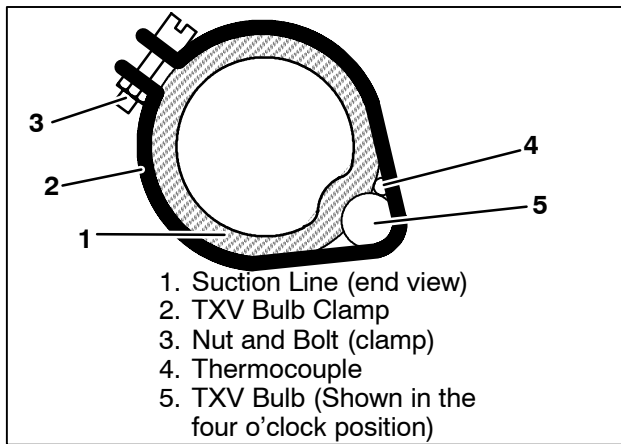

Figure 4-7. Thermostatic Expansion Valve Bulb and Thermocouple Installation
- h. The thermal bulb is installed below the center of the suction line (four or eight o'clock position). This area must be clean to ensure positive bulb contact. Strap thermal bulb to suction line and insulate both with "Presstite." Ensure that retaining straps are tight. (See Figure 4-7)
- d. Place temperature thermocouple in contact with the suction tube and parallel to the TXV bulb, and then secure loosened clamp making sure both bulbs are firmly secured to suction line. (See Figure 4-7) Reinstall insulation around the bulb.